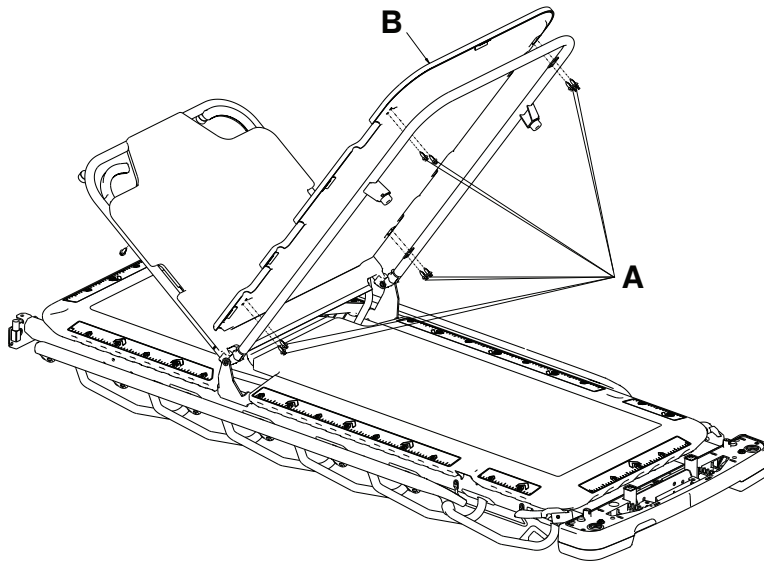

Figure 58 – Foot skin replacement, Prime X option
4. Using a #2 Phillips screwdriver, unscrew the eight scrulok screws (A) that secure the foot skin to the foot frame (Figure 58).